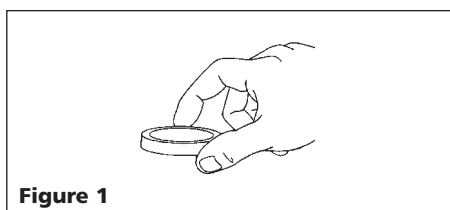

Figure 1
1. Set plastic spacer (included in parts pack) on workbench (Figure 1).